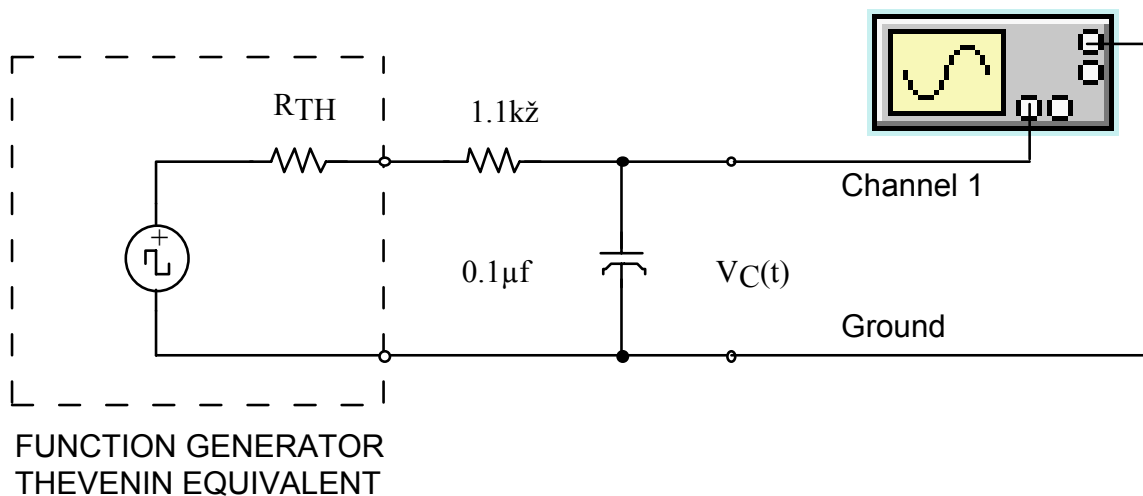

Figure 1. Driven RC Circuit
The equation describing the output $v_C(t)$ of the circuit of Figure 1 is of the form:
Determine the output resistance of the laboratory function generator, R_{TH} . This value can be determined from the HP instrument specifications available on the manufacturer's web page (note that HP spun off their Test and Measure unit as Agilent). If you cannot find this data you may assume it is 50Ω but should state that assumption in Data Table 1. Record R_{TH} and your data source in Data Table 1. The Thévenin equivalent model of the function generator is shown in Figure 1.
1. Build the circuit shown in Figure 1 on your protoboard. **Before constructing the circuit** measure and record the EXACT value of your resistor and capacitor. Use a DMM to measure the value of your resistor. Record this value in Data Table 2. Use the digital capacitance meter, available in the lab near the resistor drawers, to measure the capacitance of the capacitor you use in your circuit. Also record this value in Data Table 2.